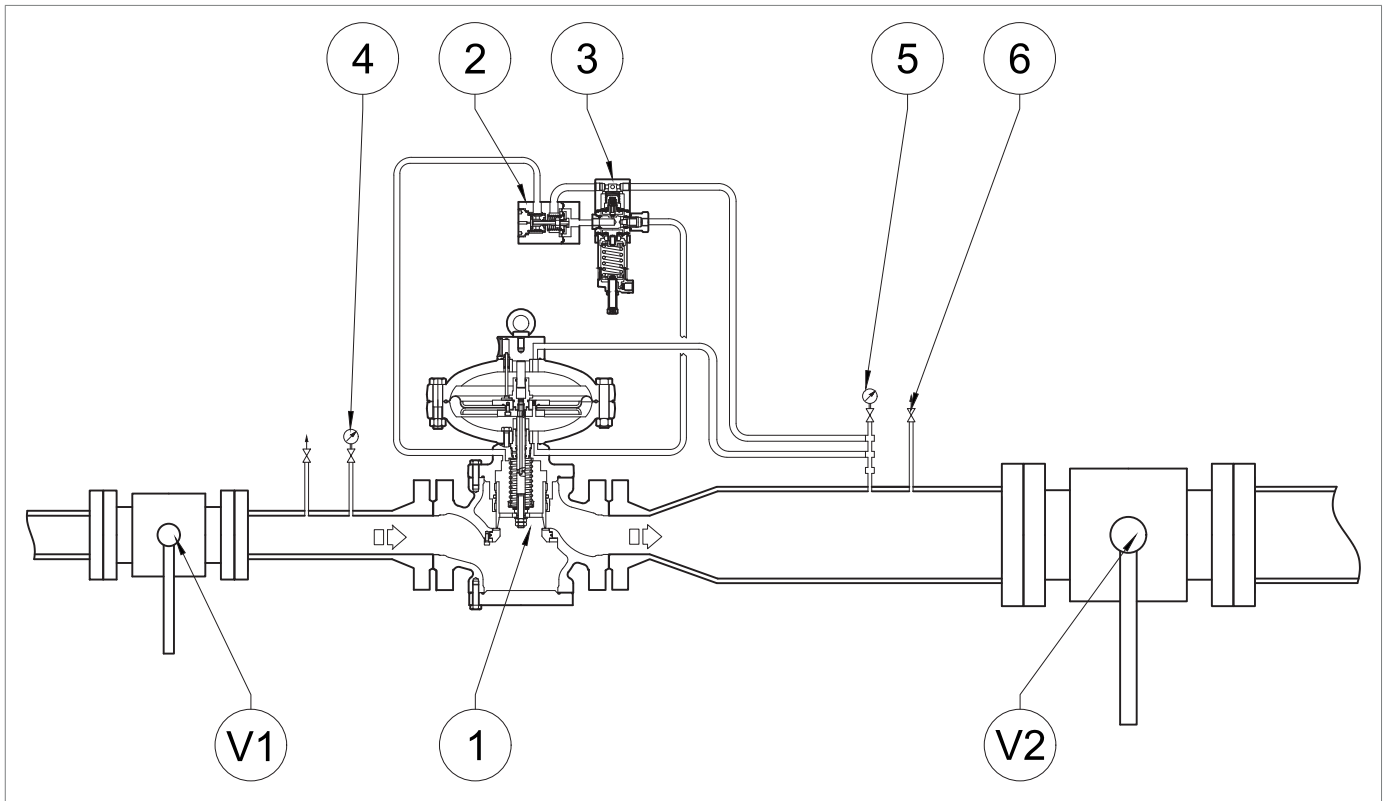

Fig. 8.29. Commissioning the regulator
1	<p>Increase the downstream pressure to the slam-shut valve by turning the adjustment screw (10) on the pilot (2) of the main regulator (1) to check the correct calibration.</p> <p>! NOTICE!</p> <p>Check the pressure referring to the pressure gauge (Fig. 8.29, ref. 5) downstream of the main regulator.</p> <p>If the slam-shut valve:</p> <ul style="list-style-type: none"> trips before the expected pressure value: screw in (clockwise) the adjustment ring nut (13) so as to further compress the spring (11); does not trip at the expected pressure value: unscrew (anti-clockwise) the adjustment ring nut (13) so as to relieve the spring (11).
2	By opening the drain cock (Fig. 8.29, ref. 6), decrease the pressure in the downstream section to the calibration value of the main regulator.
3	Close the bleed cock (Fig. 8.29, ref. 6).